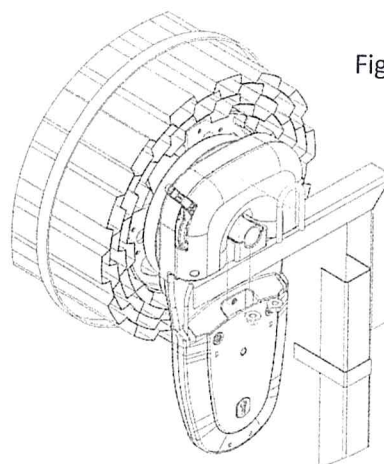

Fig: 4a
- j) Locate the Drive unit on the bracket and fit 'U' bolt provided in the fitting kit. Tighten the 'U' bolt with two nuts provided (Fig 4a).